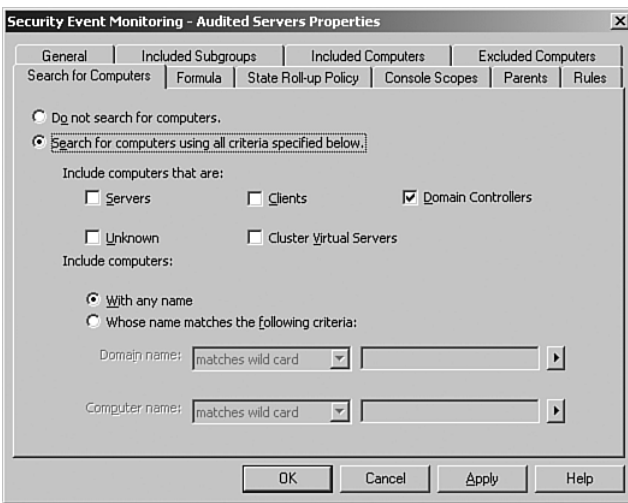

FIGURE 20.10 Search for domain controllers with any name.
2. Select the Search for Computers tab, configure the properties of the tab to only search for domain controllers regardless of name. Figure 20.10 shows an example of the required configuration.